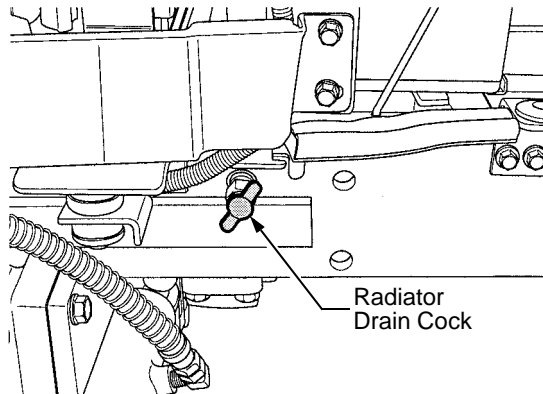

Figure 67
- Locate the radiator drain cock on the right side of the front axle frame. Place a suitable container beneath the drain cock. See Figure 67.